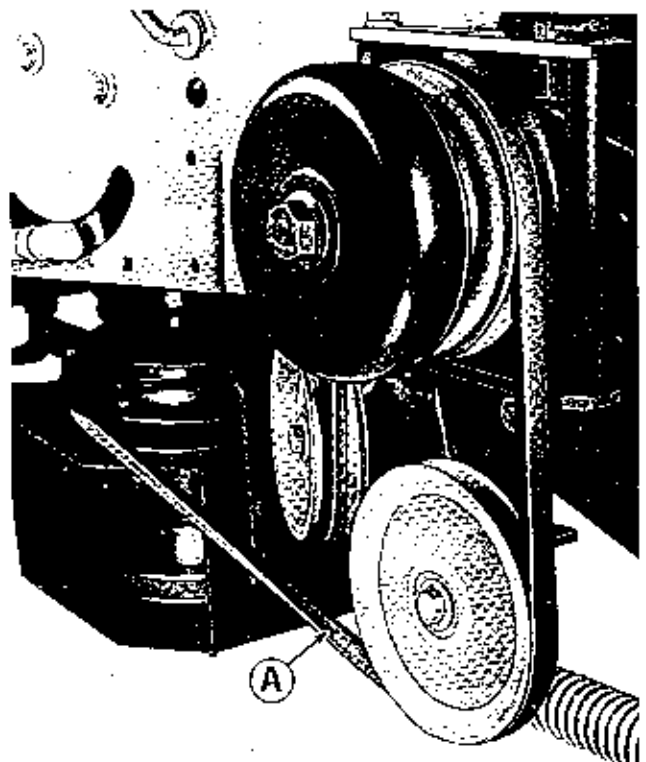

Figure 4. Drive belt installed in inner groove of power take off pulley.
6. See figures 4 & 5. Install the mower drive belt (A) over the inside groove of the power take off pulley around the idler pulleys, and the mower drive pulley. As you install the mower drive belt be sure it is twisted as shown.
3. See figure 4. Remove the mower drive belt (A) from the mower drive pulley, idler pulleys, and power take off pulley.